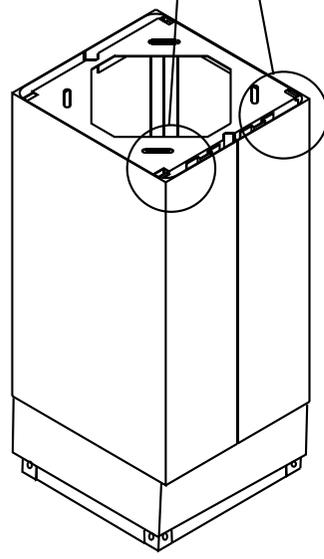

Figure 6
- 6- Attach ceiling installation sheet (A) (Figure 1) to G1 (Figure 5.1.A) and G2 (Figure 5.1.B) and screw to motor block on corners as shown in Figure 6.